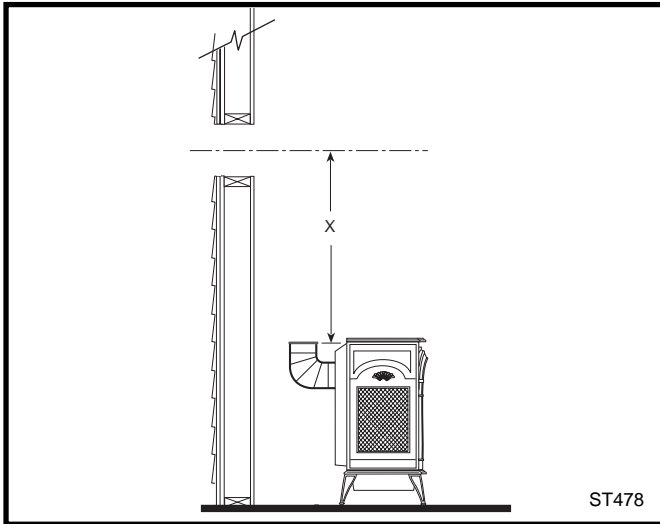

Fig. 26 Determine the vertical pipe length.
4. If necessary, measure to determine the vertical length (X) of pipe required from the first (transition) elbow to the wall cutout centerline, including a 2" overlap at the joint. (Fig. 26) Use a hacksaw or tin snips to trim the pipe as needed.